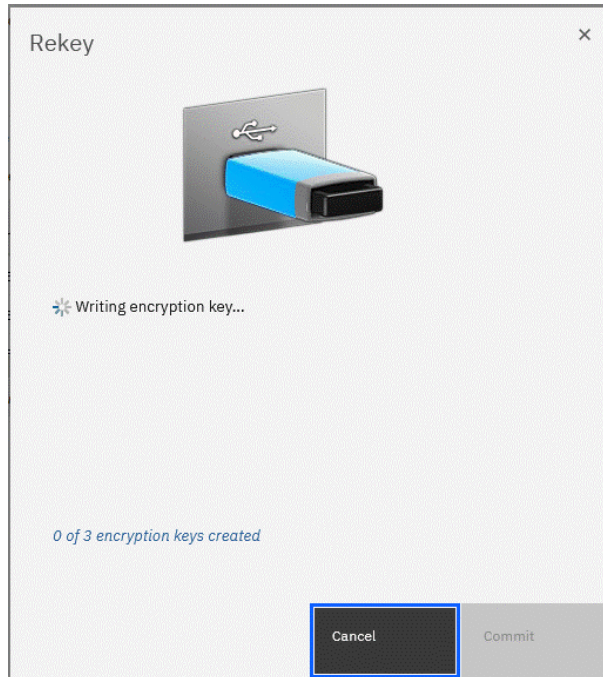

Figure 12-72 Writing new keys to USB flash drives
3. If the system detects a validated USB flash drive and at least three available USB flash drives, new encryption keys are automatically copied on the USB flash drives, as shown in Figure 12-72 on page 791. Click **Commit** to finalize the rekey operation.